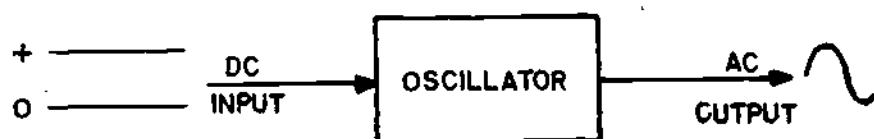

Figure 2
② Previously you learned that the function of a power supply is to convert AC to DC. The function of an oscillator is just the opposite. The oscillator circuit takes a DC voltage and converts it to an AC output. This is shown pictorially in Figure 2.